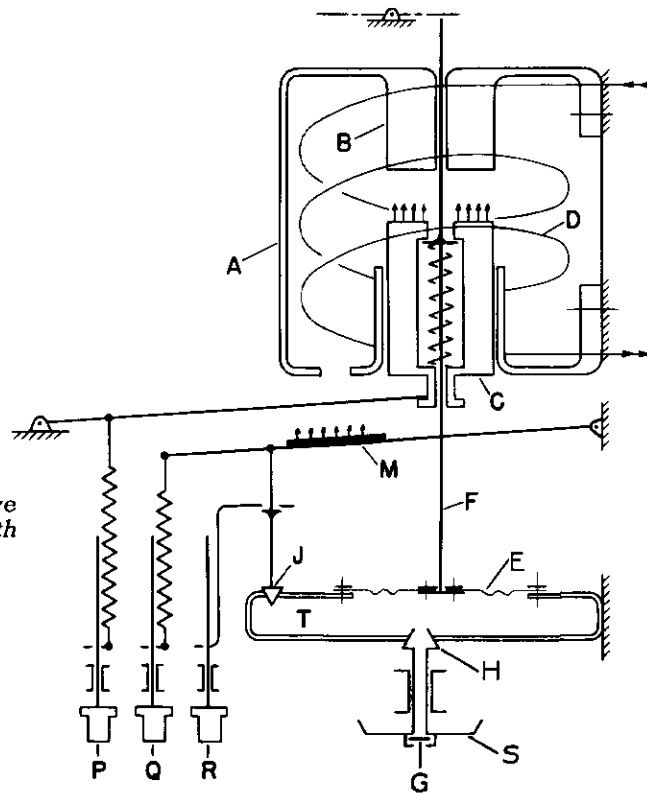

Fig. 11 - Schematic Diagram of Selective Series Overcurrent Tripping Device with Adjustable Long Delay and Short Delay Elements
A. A short delay valve J, Fig. 11, controls the size of orifice and consequently the tripping time in the short circuit region. This orifice is adjustable by means of knob R.
The short delay pick-up can be adjusted by means of knob Q, Fig. 11. The unit has
The short delay can be adjusted by means of knob R, Fig. 11. The unit has been calibrated and the calibration plate marked at 6-14 and 30 cycles. The short delay is usually placed on the 6 cycle